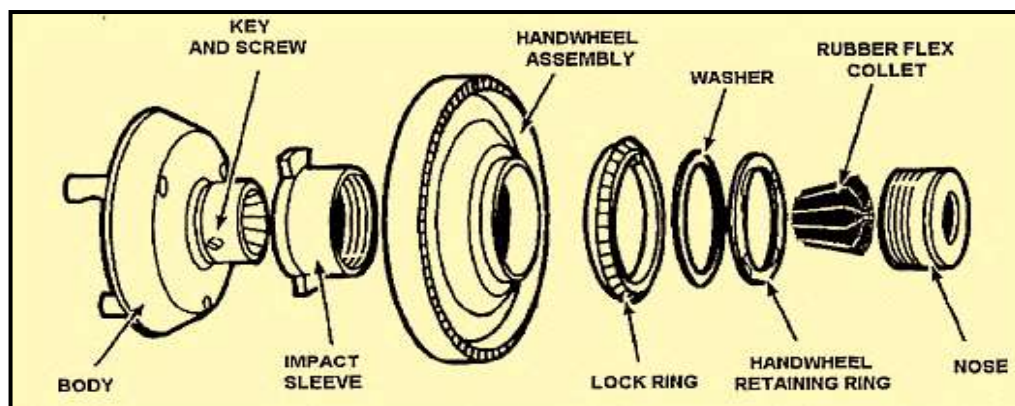

Figure 7-21. Jacob's spindle nose collet chuck and rubber flex collet.
**Jacob's Spindle-Nose Collet Chuck:** Is a special chuck used for the Jacob's rubber flex collets. This chuck combines the functions of the standard collet chuck and drawbar into one single compact unit. The chuck housing has a handwheel on the outer diameter that turns to tighten or loosen the tapered spindle which holds the rubber flex collets. (Figure 7-21).